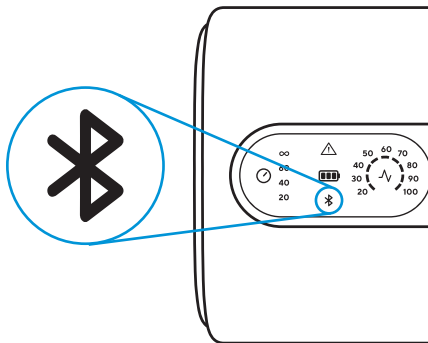

**Figure 1 - Sequential Cycle Mode**
- A directional massage is applied, starting at the base of the treated area, and progresses upwards towards the torso and then releases. (see Figure 1)